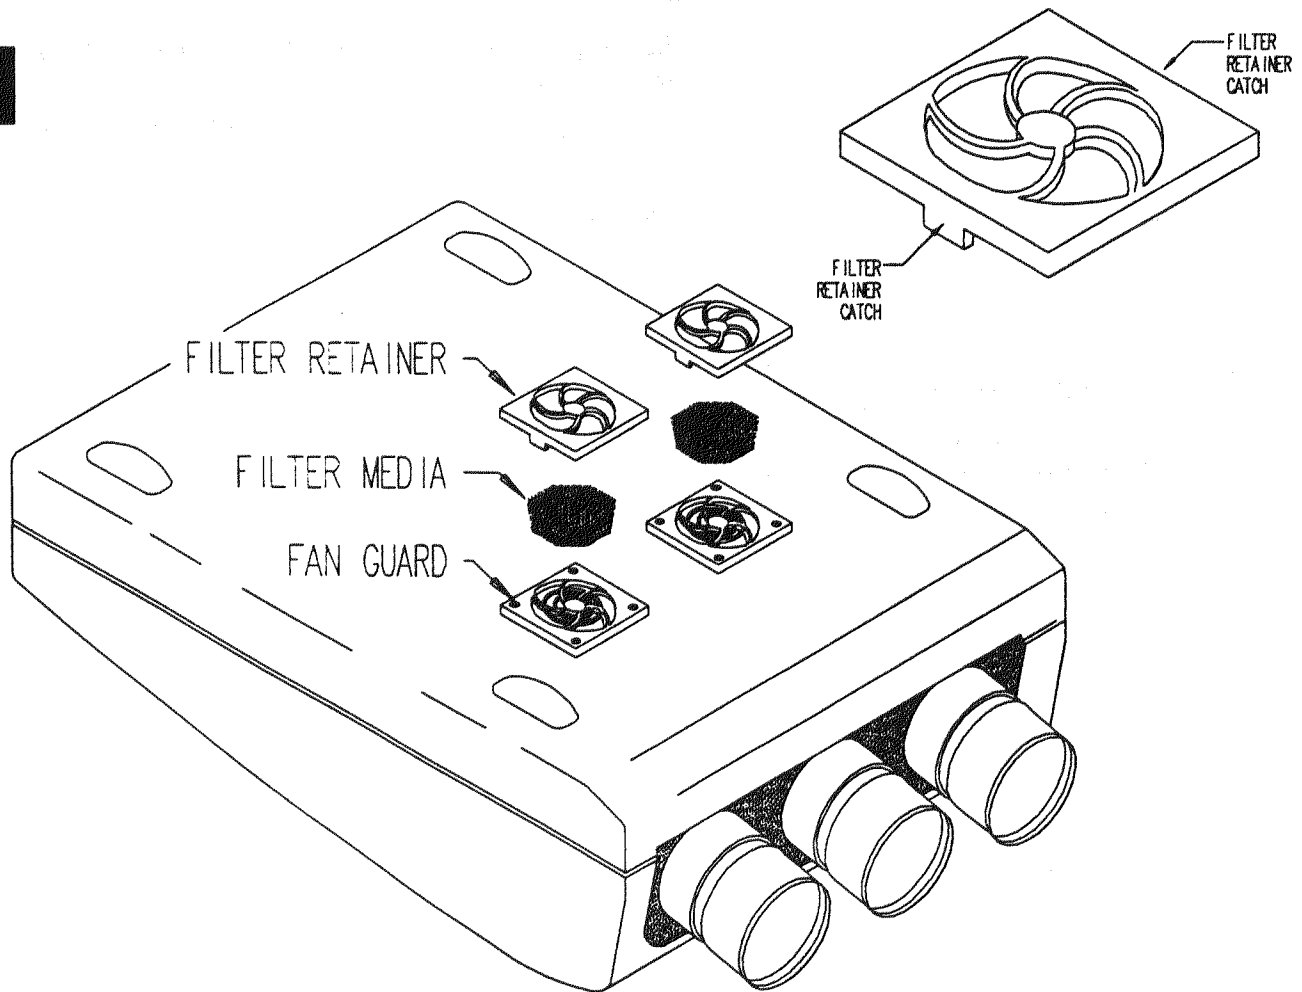

FIGURE 9-1.
- STEP 1. Remove the filter retainer by pulling the sides with the catch apart, then remove the filter media from between the retainer and the guard. Refer to Figure 9-1.